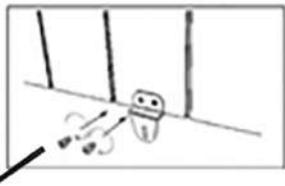

Figure 8
Note: the two brackets (A) are screwed to the holes located on the lower rear part of the heater, at both ends. (Figure 8).